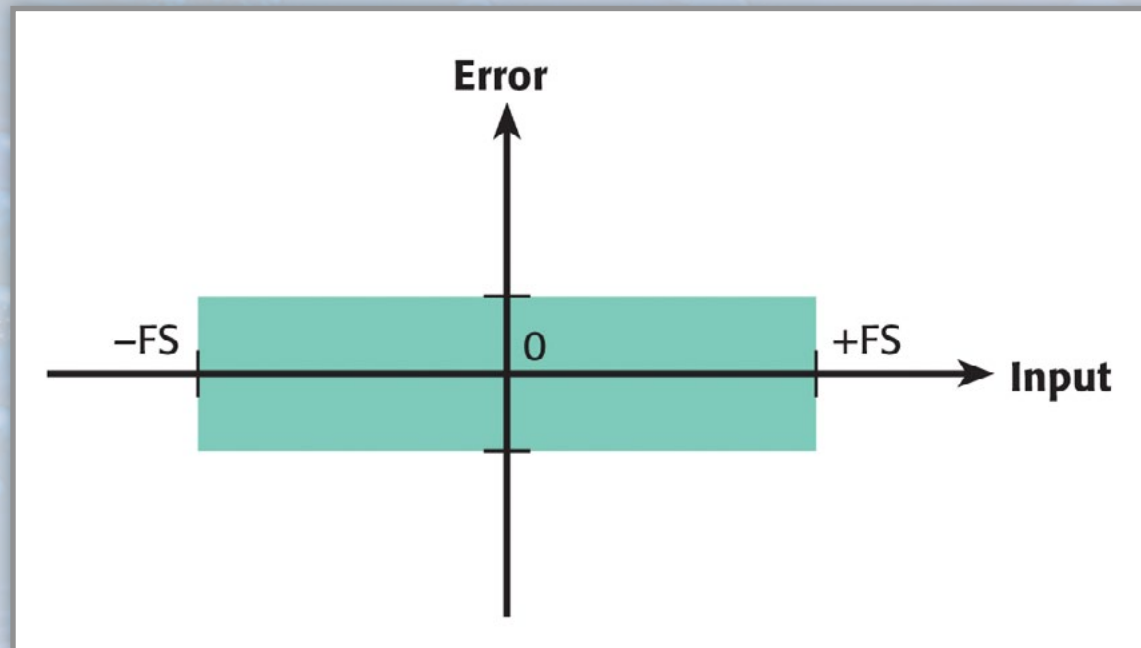
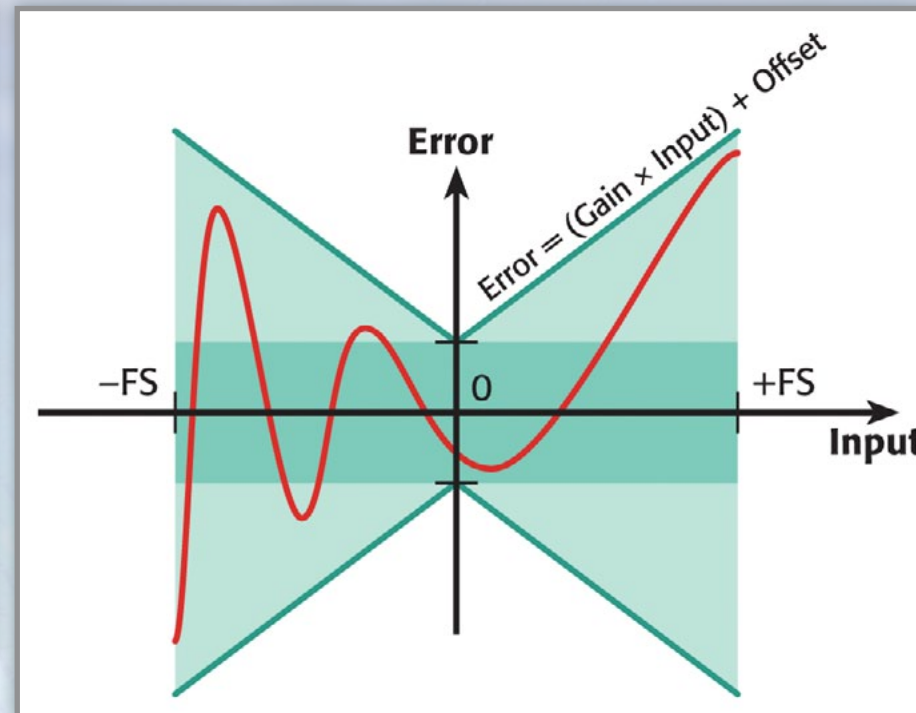

Figure 1
Figure 2
- Accuracy.** Keithley normally expresses its accuracy specifications in two parts, namely as a proportion of the value being measured, and a proportion of the scale that the measurement is on, for example: \pm (gain error + offset error). This can be expressed as \pm (% reading + % range) or \pm (ppm of reading + ppm of range). The range in **Figure 1** is represented by FS or “full scale.” For example, the specification for Keithley’s Model 2000 6½-digit multimeter, when measuring voltage on the 1V range, states an accuracy of 30ppm of the reading + 7ppm of range. The green box represents the offset error, which is expressed either as a percentage of the range or ppm of the range. **Figure 2** illustrates the gain error, which is expressed either as a % of the reading or ppm of the reading. When carrying out a reading, we can expect the error to be anywhere within the purple and green areas of the graph. Accuracy specs for high-quality measurement devices can be given for 24 hours, 90 days, one year, two years, or even five years from the time of last calibration. Basic accuracy specs often assume usage within 90 days of calibration.